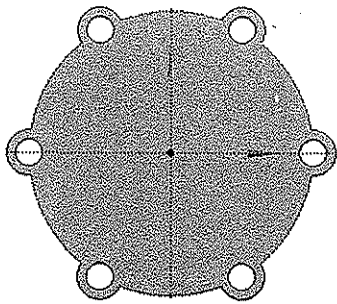

Figure 4-60 Front view of the model
- 1. Choose the **Look At** tool from the **Graphics** toolbar; the front view of the model is oriented, as shown in Figure 4-60. *